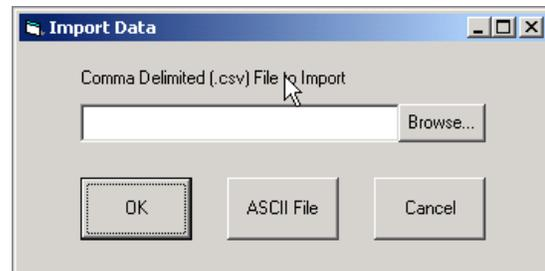

Figure 15. Import Data Dialog Box
2. Type the file path in the dialog box shown in Figure 15 or click on the Browse... button to search for the file. Click OK.
2. Click on the ASCII File button shown in Figure 15.